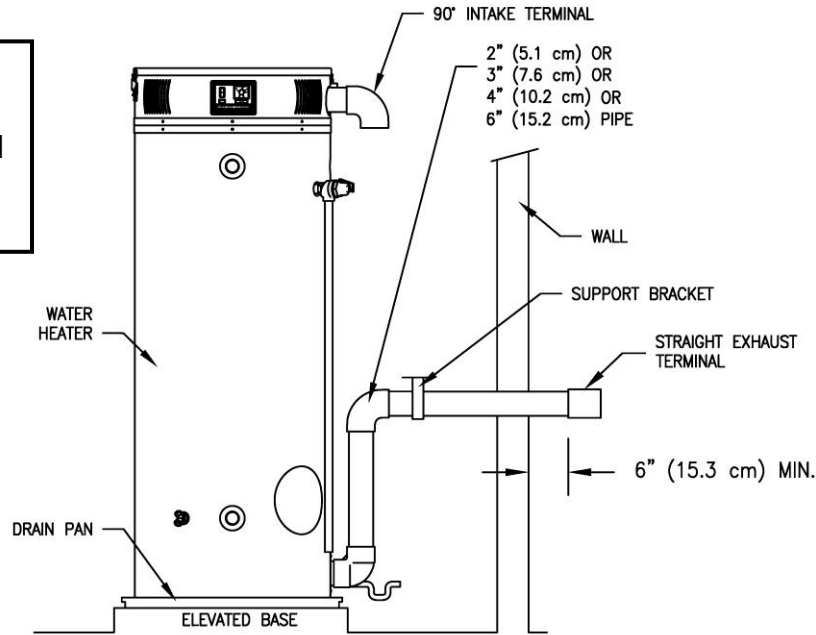

Figure 15 - Typical Horizontal Power Vent System
2. Use the proper cement or sealant to secure the exhaust vent terminal provided with the water heater to the plastic pipes. The distance between the back edge of the exhaust vent terminal and the exterior wall (see Figure 15) must be 6 in (15.2 cm). Use the proper cement and assembly procedures to secure the vent connector joints between the terminal and the blower outlet. Provide support brackets for every 3 ft (1 m) of horizontal vent.